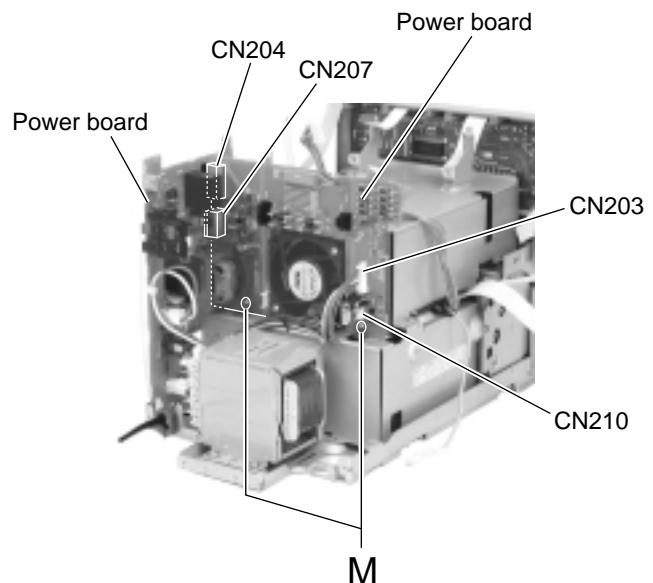

Fig.21
■Removing the power board (See Fig.21)